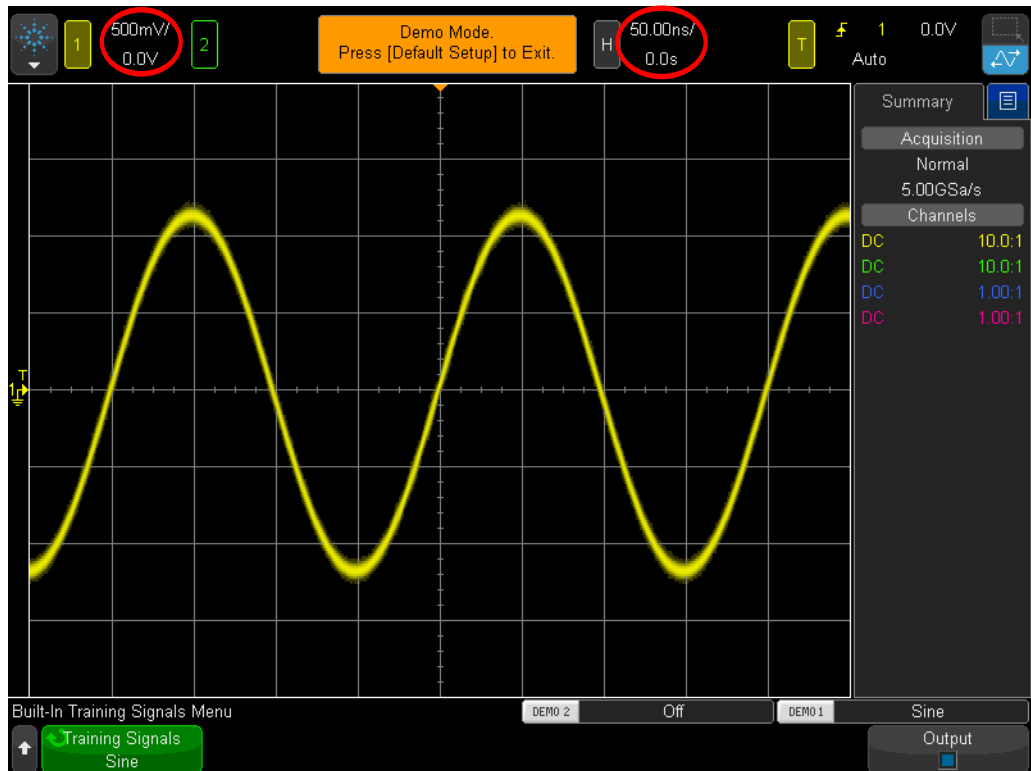

Figure 9 Initial setup to view the sine wave training signal
- 8 Turn the s/div knob (large knob in the Horizontal section) clockwise until you observe more than two periods of a sine wave across the display. The correct setting should be **50 ns/div**, which is displayed as "50.00ns/" near the middle of the top part of the display. Your scope's display should now appear similar to Figure 9. From this point forward we will simply refer to this as the scope's "timebase" setting. Additionally, tapping **50 ns/div** will pop up a menu that can be used to explicitly enter the timebase setting.